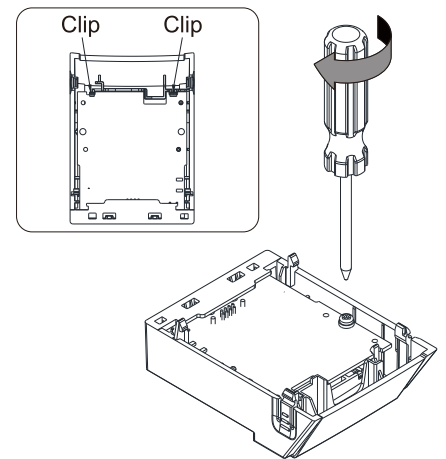

Figure 3-15
3. Make sure that two clips properly engage the option card on the backside, and then tighten the screws (suggested torque value: 4–6 kg-cm [3.5–5.2 lb-in.] [0.39–0.59 Nm]), as shown in Figure 3-15.